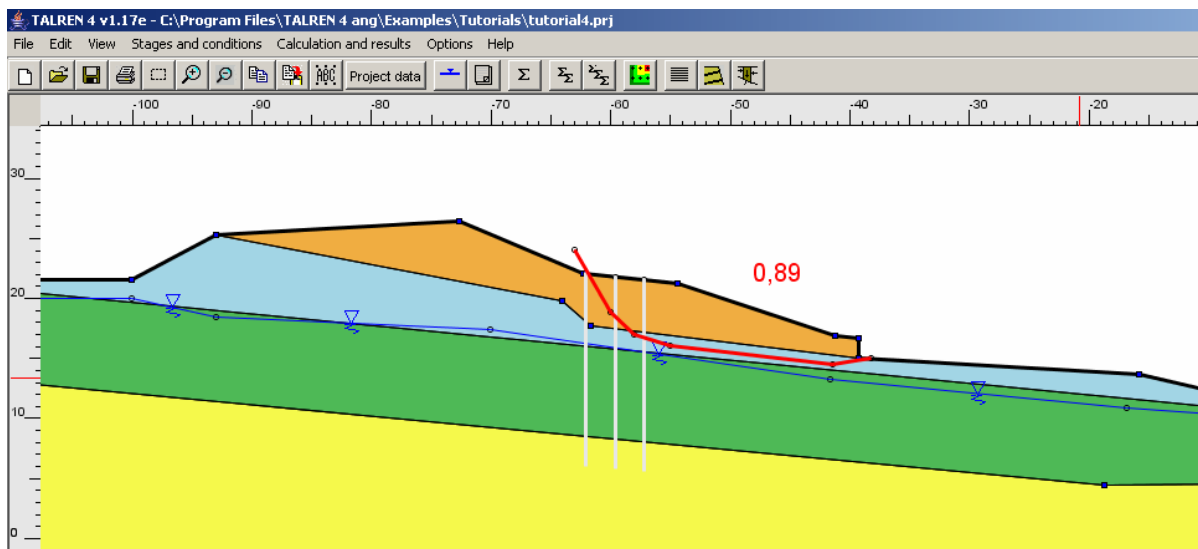

Figure 88: default output for situation 1 of stage 1
- To calculate this situation, choose menu [Calculation and results] then option [Calculate the selected set of conditions] or click on the toolbar button . The calculation is performed and the result is displayed (Figure 88): the circles represented on the graphical view are those that correspond to the minimum safety factor value.